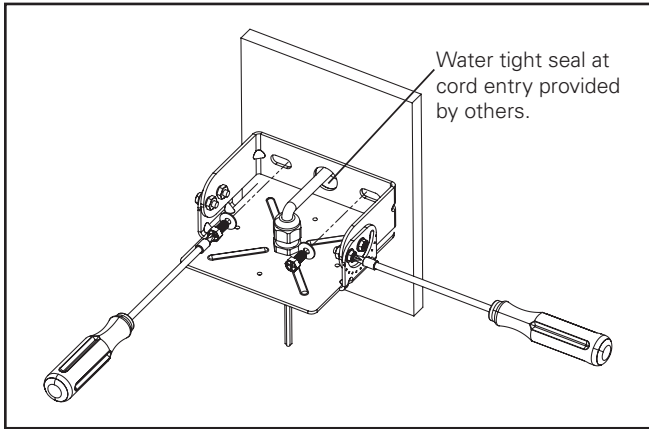

Figure 1.
1. Make electrical connections from the trunnion whip to supply leads (wire connectors supplied by others). Mount trunnion flood bracket to desired surface. Recommend 1/4"-20 lag bolts and washers (supplied by others, tighten/torque to 50-60 in-lbs). (Figure 1.)
2. Loosen trunnion pivot screws and nuts to adjust the position of the trunnion flood bracket. Re-tighten. Assembly should be rigid for back box and fixture mounting. (Figure 1.)